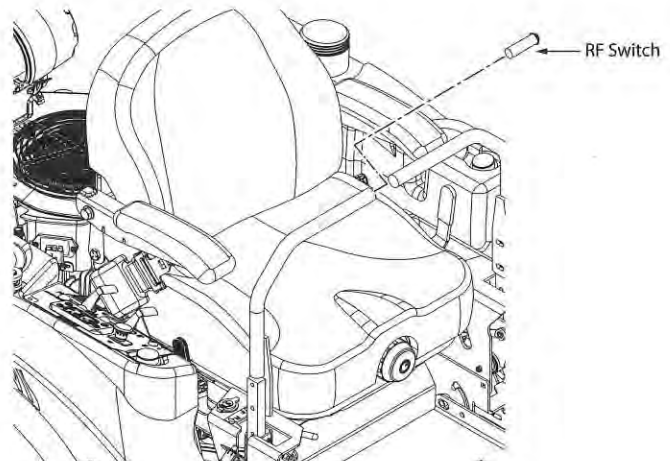

Figure 3-38. RF Switch Installation
- Remove and retain the two (2) 3/8-16 x 1 1/4" bolts, lock washers and flat washers securing the right hand drive handle to the control lever bar.
- Install the RF switch into the end of the right hand drive handle. See Figure 3-38. It may be necessary to add a light application of silicone to retain the switch in the handle.